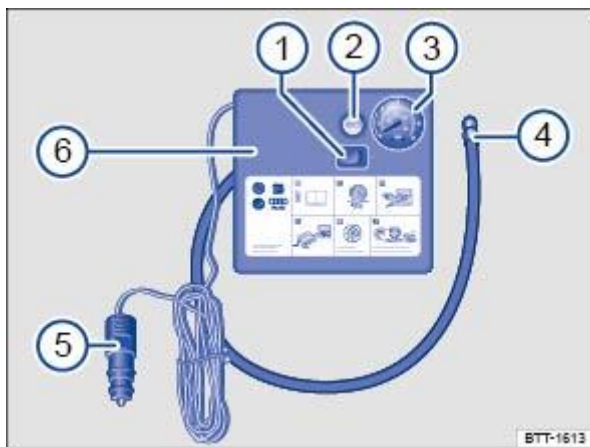

Fig. 209 Illustration: compressor from the breakdown set.
The compressor in the breakdown set consists of the following components ⇒ Fig. 209 :
☐ Screw the tyre filler hose ⇒ Fig. 209 ④ of the air compressor tightly onto the tyre valve.
☐ Check that the bleed screw ⇒ Fig. 209 ② is closed.
☐ Insert the 12-volt plug ⇒ Fig. 209 ⑤ into one of the vehicle's 12-volt sockets ⇒ Electrical sockets .
- ☐ Use the on/off switch ⇒ Fig. 209① to switch on the air compressor.
Reconnect the tyre filler hose ⇒ Fig. 209④ and read off the tyre pressure on the tyre pressure display ③.